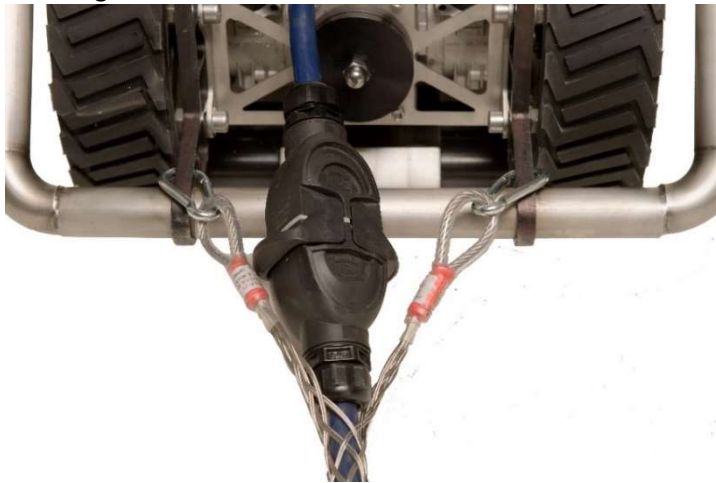

Figure 20 Pull relief
3. Attach the pull relief for the cable to the MAGTRACK. As can be seen in Figure 20